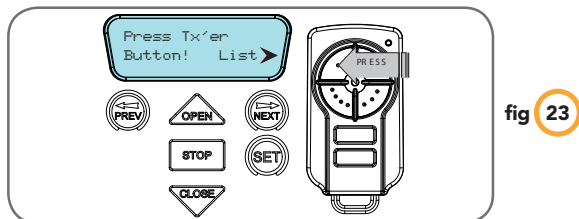

fig 23
2. Press the transmitter button you wish to use to operate the Door Opener (e.g. button 1) (Fig. 23).